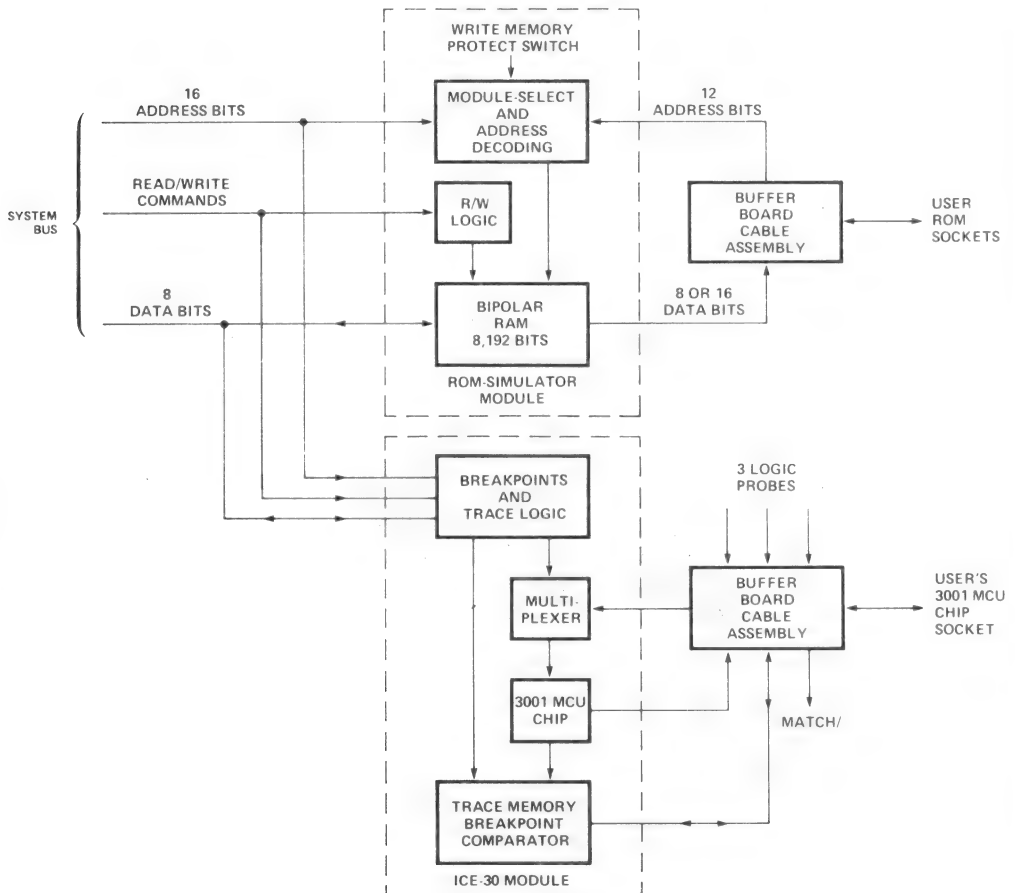

Figure 1. Functional Block Diagram of ICE-30 Module, Operating in Conjunction with ROM-Simulator Module
A 3001 MCU chip in the user's system may be emulated by inserting the ICE-30 board into the Intellec bus inside a basic Intellec system. The ICE-30 board contains a 3001 MCU and peripheral logic required to monitor the 3001 operation and store trace information. The external cable carries status and control lines to and from the 3001 compatible 40-pin connector and the three logic probe lines. In addition, a MATCH line brought out on the external cable allows ICE-30 to control the user system's master clock and to perform microprogram halt and single step functions. A functional block diagram of the ICE-30 module is shown in Figure 1.
sheet #98-211A). (See also Figure 1.) The commands provided by ICE30SD may therefore be divided into three categories: (1) Commands common to both ROM-SIM and ICE30SD, (2) commands supporting ICE30SD functions, and (3) commands unique to optional ROM simulator. Common commands and ICE30SD commands are represented in Table 1 and Table 2, respectively.